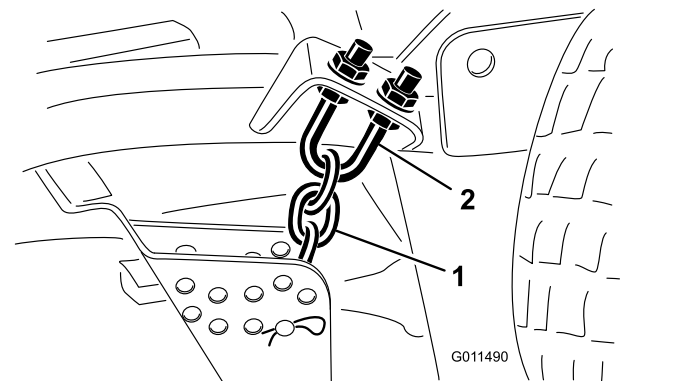

Figure 77
1. Loosen the jam nuts on the top or bottom of the height-of-cut chain U-bolt (Figure 77).